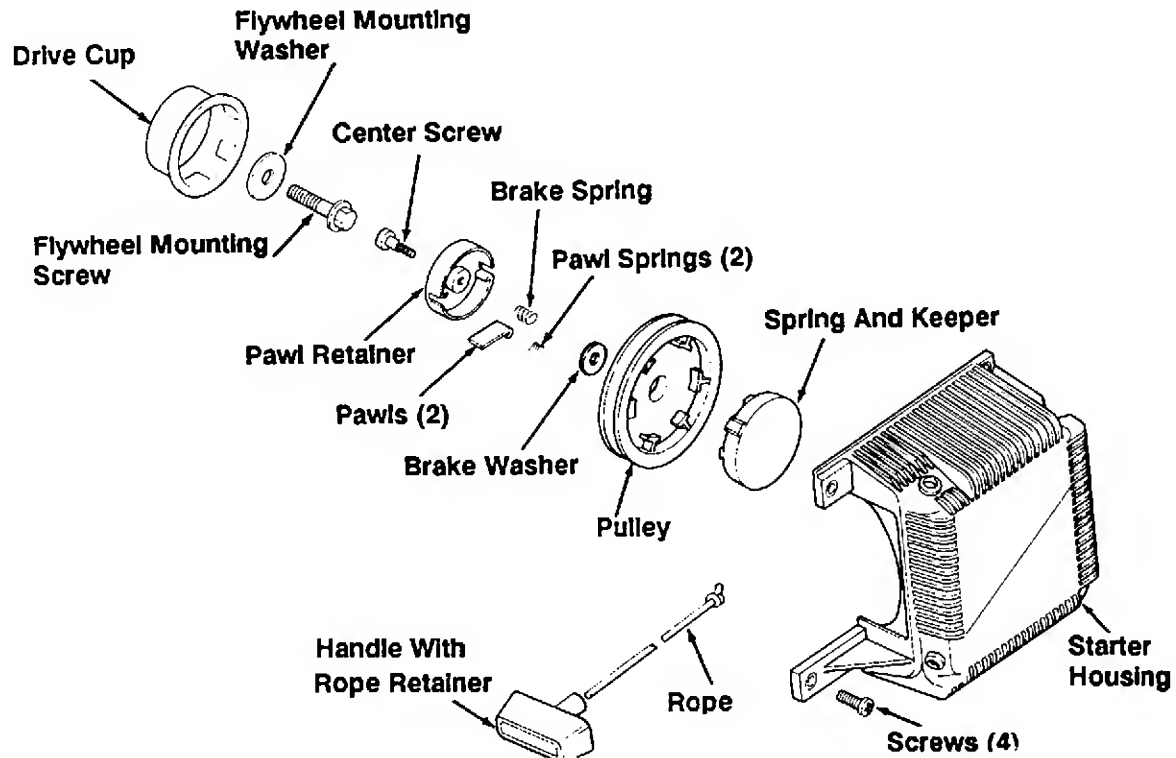

Figure 7-1. Retractable Starter – Exploded View.
2. Replace all worn or damaged components. Use only genuine Kohler replacement parts as specified in the Parts Manual. All components shown in Figure 7-1 are available as service parts. Do not use nonstandard parts.